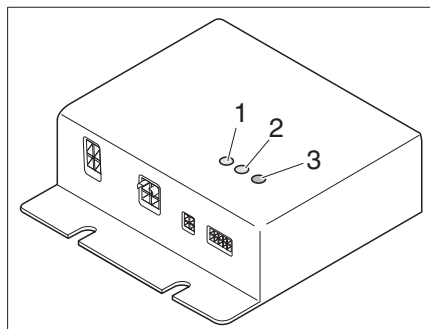

Fig. 299 Control unit
The control unit (Fig. 299) is installed in the wardrobe. The control lamps on the control unit have the following meanings:
- The indicator LED (Fig. 299,1) HC1 lights up in green: Heating circuit 1 is operating
- The indicator LED (Fig. 299,2) HC2 lights up in green: Heating circuit 2 is operating
- Fault LED (Fig. 299,3)